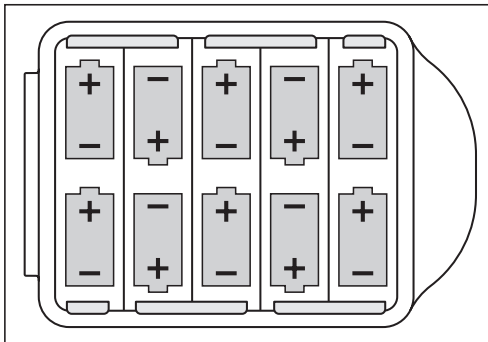

Fig. 17: Changing the batteries in the generator – battery polarity
3. Insert new batteries. Ensure correct polarity (Fig. 17).